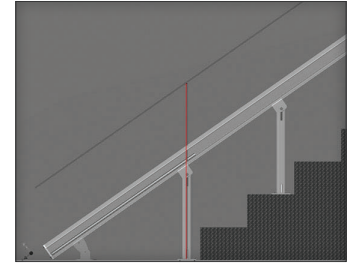

Figure 6-1
**5. Mark the location for the upper guide rail.** Measure from the leg base plate up the wall 36.25" (as indicated by the red vertical line). Measure in the center of the leg and use a 3 or 4' level to ensure that the leg is plumb vertically. [Figure 6-1]